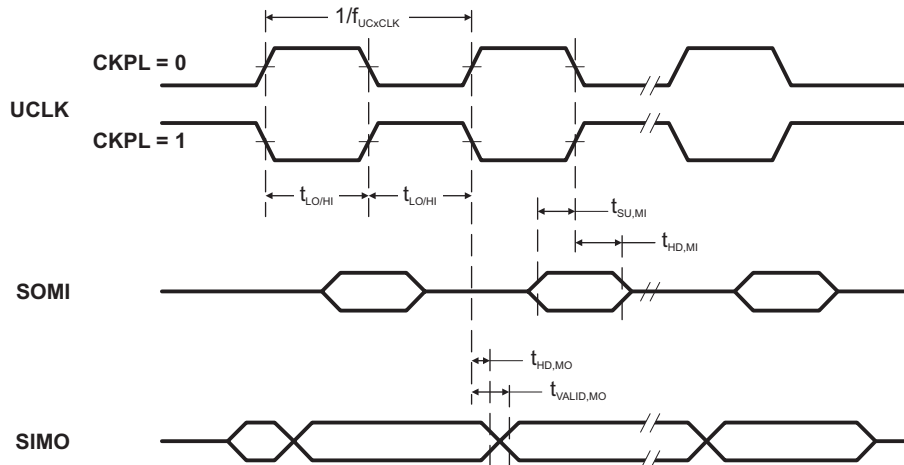

Figure 12. SPI Master Mode, CKPH = 0
(see Note (1), Figure 12 and )
- (2) Specifies the time to drive the next valid data to the SIMO output after the output changing UCLK clock edge. See the timing diagrams in Figure 12 and .
- (3) Specifies how long data on the SIMO output is valid after the output changing UCLK clock edge. Negative values indicate that the data on the SIMO output can become invalid before the output changing clock edge observed on UCLK. See the timing diagrams in Figure 12 and .